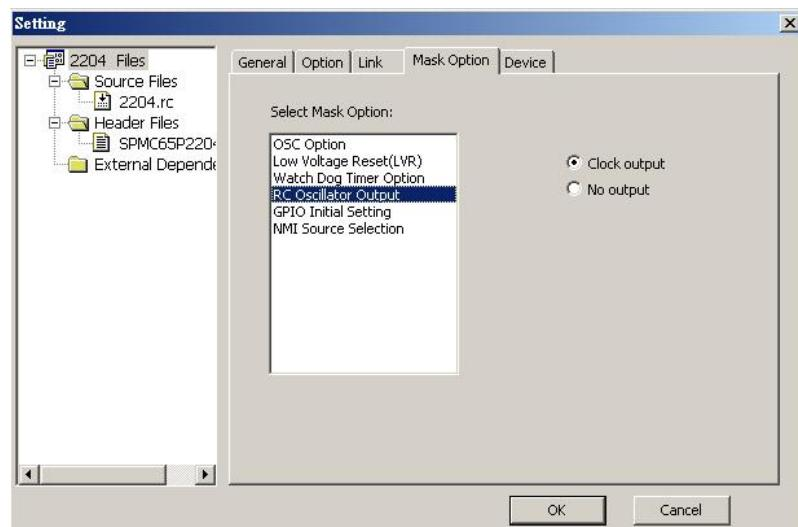

Figure 7-3 RC Oscillator Output
- The operation clock can be outputted at "XO" pin when device configuration registers is set in [Mask Optionà RC Oscillator Output] as [Clock Output], Figure 7-3.